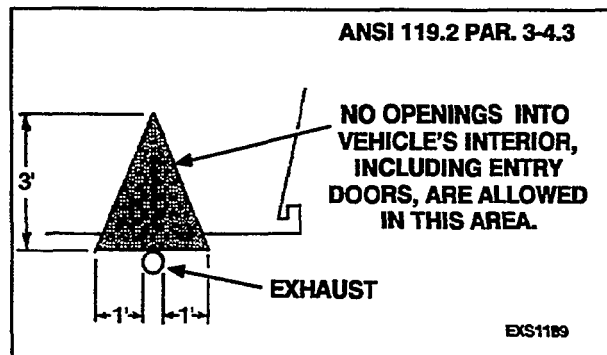

FIGURE 3-21. TAIL PIPE LOCATION
**⚠WARNING** *Exhaust gas presents the hazard of severe personal injury or death. Do not terminate the exhaust pipe under the vehicle. The exhaust pipe must not terminate so that any vent, window, or opening into the living area is within the triangular area shown in Figure 3-21. Read the Important safety precautions in the Exhaust Systems section.*
5. Be aware that any vent, window, or opening that can be opened and that is not permanently sealed from the vehicle living space, can be an avenue for carbon monoxide. The tail pipe must not terminate so that any vent, window, or opening into the living area is within the triangular area shown in Figure 3-21.